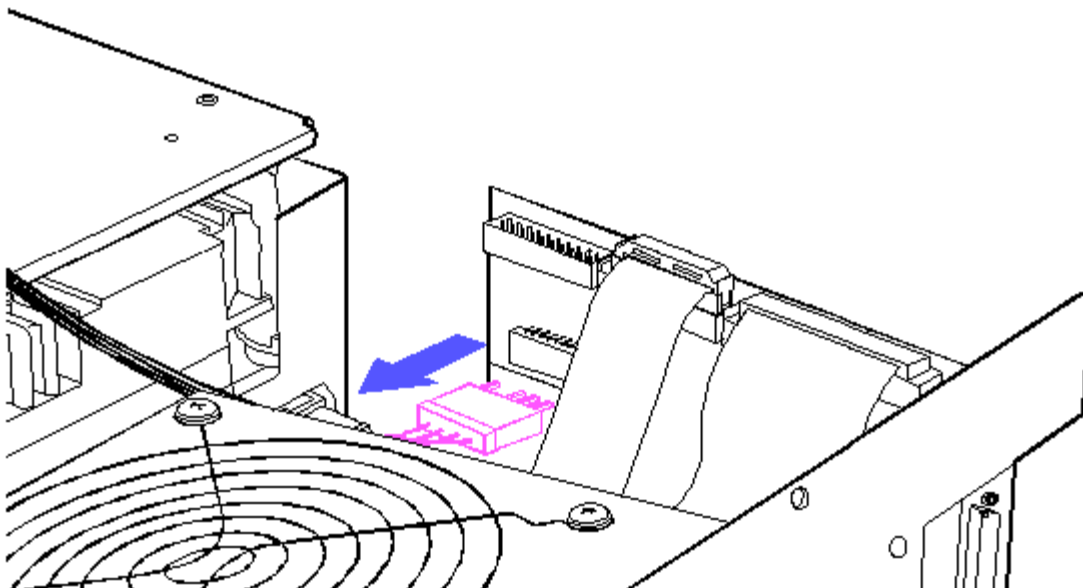

Figure 8-108. Disconnecting the Universal Drive Power Cable
3. Disconnect the universal drive power cable from the external interface adapter board in the fixed disk drive expansion unit (Figure 8-108).